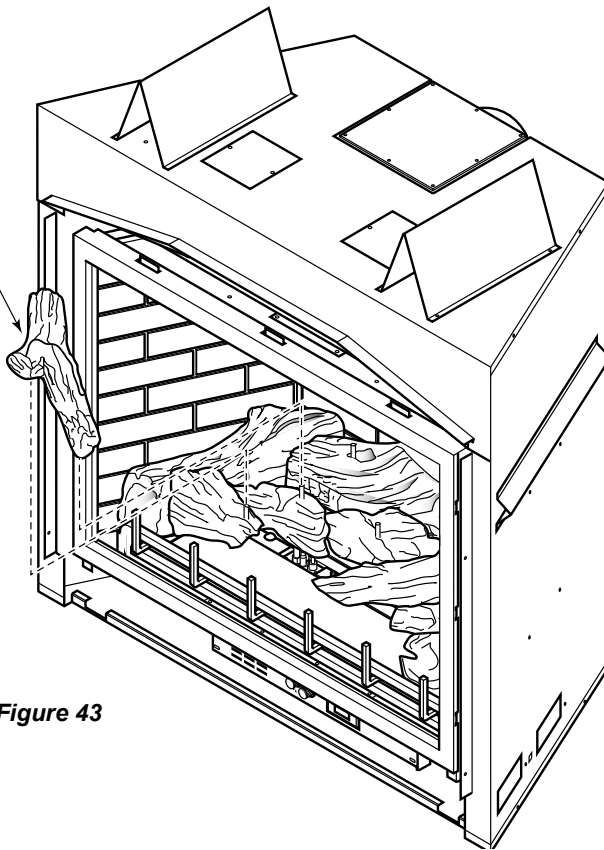

Figure 43
- 8. Place top left log (#4) on two pins on left mid log. *Figure 43*